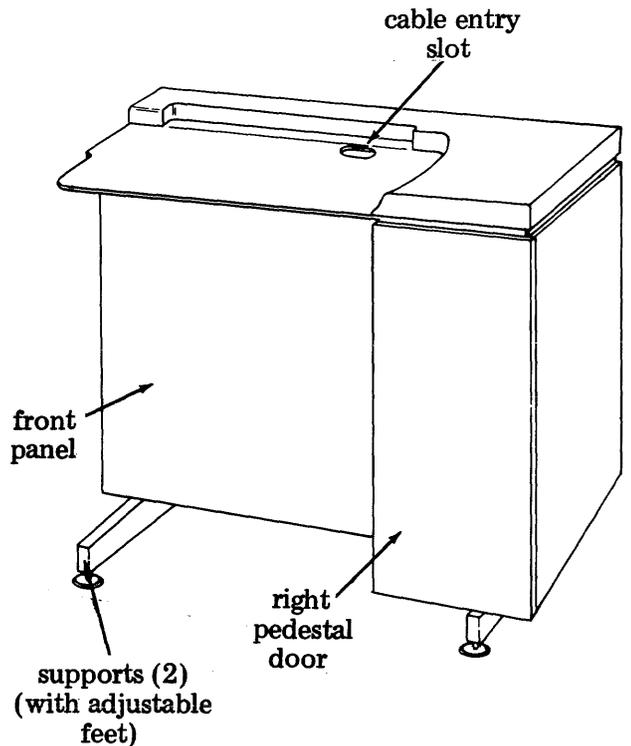

Figure 11 - Double-Compartment Table
2.17 As an option, a double-compartment table (Figure 11) is available when a table style of furniture is desired, or when additional electrical equipment is required, such as the station controller. This additional electrical equipment can be mounted behind the front panel or in the right pedestal. A right pedestal door is available that has provisions for an attendant set.